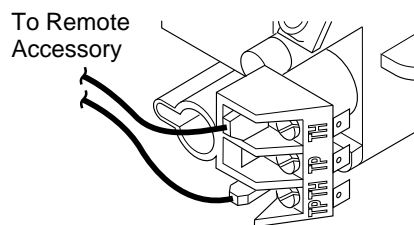

Figure 22- Control Valve Terminals
3. Run the wires from the wall thermostat through the rectangular cut-out in the back of the heater base. Connect one terminal of the wire for the wall thermostat to the THTP terminal on the valve. Connect remaining wire terminal to the TH terminal on the valve. Make sure that the wire terminals are in the positions on the unit as pictured in Figure 22. If wires are not connected as shown the thermostat will not work.